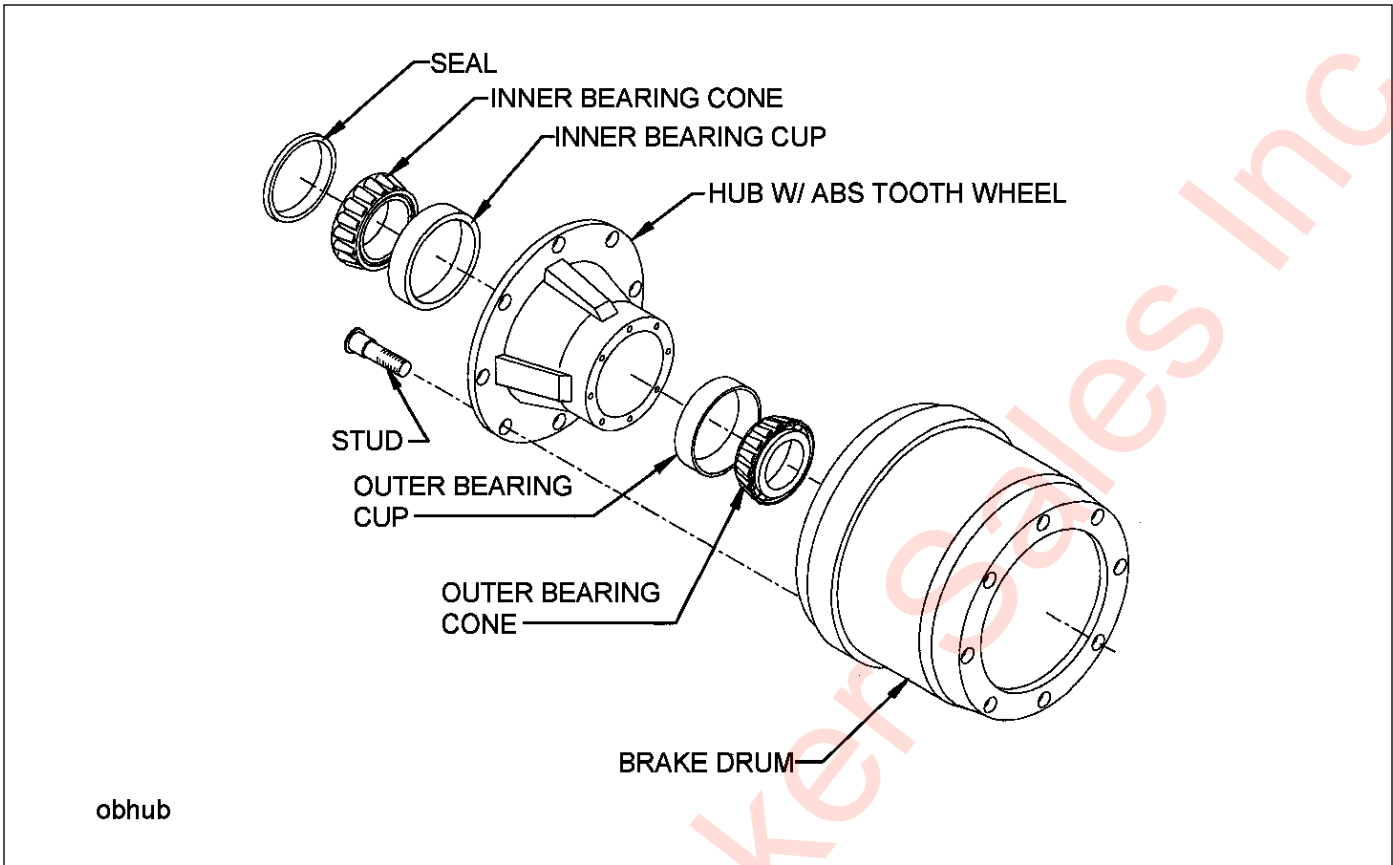

Figure 4-12: Outboard Mount Hub and Drum
7. Replace the hub and drum as follows (See Figure 4-12.):
- a. Remove the brake drum (See Figure 4-12.) It may be necessary to release the slack adjuster.